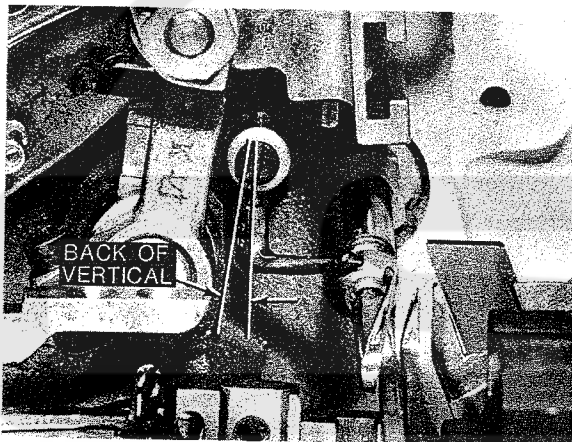

Fig. 12
2. With upper looper/spreader positioned at the right end of travel, loosen screw (C) and rotate holder (B) as required to set shank slightly back of vertical as shown in Fig. 12, then temporarily tighten screw (C, Fig. 11).